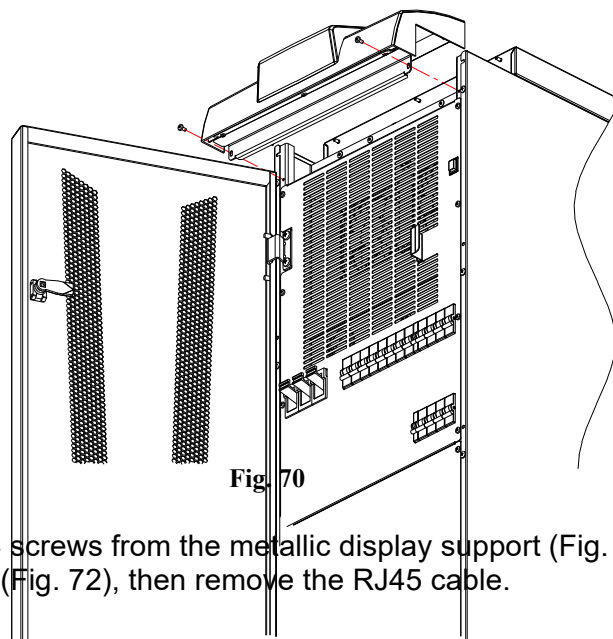

Fig. 70
- **ACT:** in order to remove the display, unscrew the n°2 screws from the metallic support under the display (Fig. 70). Pull out the display and then remove the RJ45 cable.